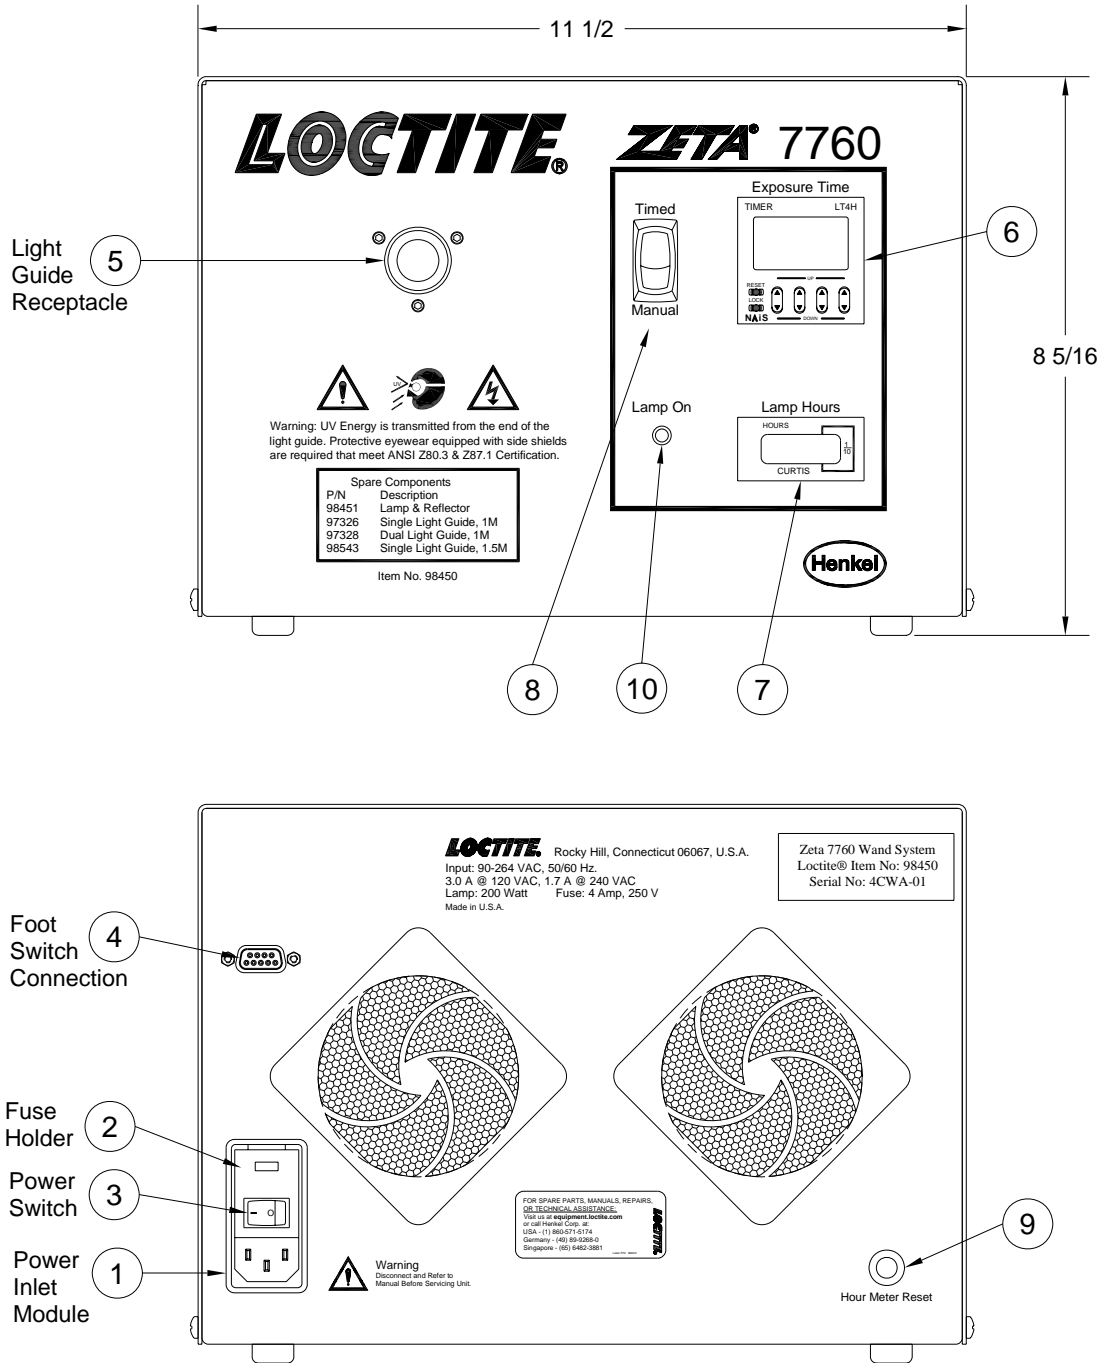

Figure 1.
| 2.2 OPERATING ELEMENTS AND CONNECTIONS, REFERS TO FIGURE 1..... | 5 |
2.2 Operating Elements and Connections, refers to Figure 1